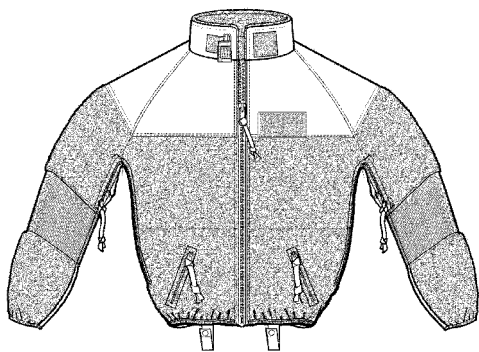
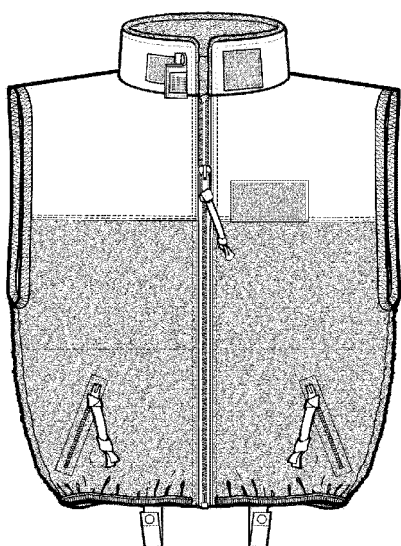

Figure 3-46. Fleece Jacket
Figure 3-47. Fleece Vest
5. The **Fleece Jacket** (figure 3-46) and **Vest** (figure 3-47) is designed to be worn over the **Silkweight**, **midweight** and/or **heavyweight** garments, alone or under the shell outer jacket on cold/wet days. The garments provide warmth without weight and blocks 95% of the wind while still providing outstanding breathability. The garments are water-repellent and shed rain and snow; dries quickly. The vest provides warmth to the body core on moderately cold days while still providing freedom of movement. The garments are constructed of an aramid 300 weight double fleece engineered to provide flame protection in a garment that wicks and provides comfort.